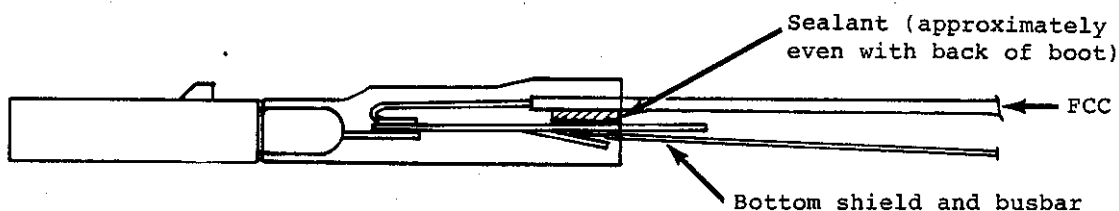

Figure 8-9. Position of Sealant Strip Between Bottom Shield and FCC
4. Insert a CTA-0055 sealant strip between the FCC and the shield, and position it as shown in Figure 8-9.